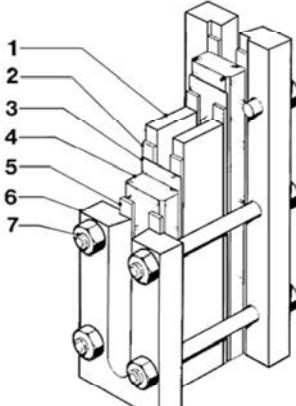
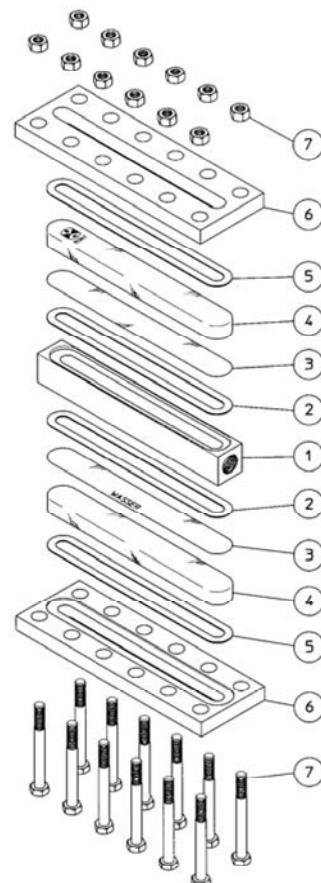
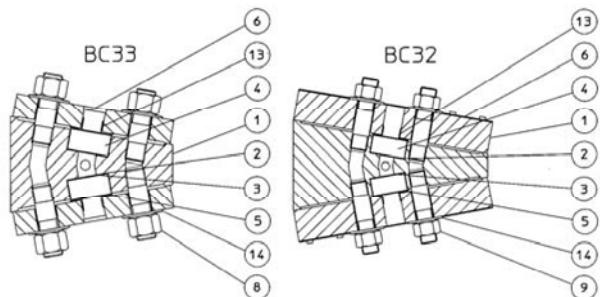

Fig. 764 - BT23
Fig. 6 - Transparent level gauge typical assembly dwg
Fig. 7 - BC33 e BC32 typical assembl Dwg.
1. Refer to proper level gauge type to identify items (Table 3 and typical assembly Dwg Fig. 6 and Fig. 764, 765, 766, 767, 814.1, 815.1, 824-BC23/BC24/BC28).
3. Depending on gauge type, fit cover plate (6) with bolts (7), stud bolts (8) or studs (9) for Type BC level gauges.
4. Only for BT 32/33 fit angular pieces (13). Place cushion joint (5).
5. Place transparent glass (4) into its housing on cover plate so that glass side with the BONT® trade mark must be faced to the cushion joint. Be careful to avoid damages to glass (as scrapes) made by metal items. Insert mica shield (or Kel-F shield), if any (3). Mica shield has a side with printed the word "WASSER". Such side must be placed faced to the observer (internal side of level gauge).
6. Place sealing joint (2).
7. Place centre piece (1) so that it is correctly matching over sealing joint and glass. Be careful to avoid damages to glass or to sealing joint or to mica shield.
8. Place sealing joint (2) matching it on the centre body housing. Insert . Insert mica shield (or Kel-F shield), if any (3). Mica shield has a side with printed the word "WASSER". Such side must be placed faced to the centre piece (internal side of level gauge).
9. Place transparent glass (4) on its housing . Place transparent glass (4) into its housing on centre piece so that glass side with the BONT® trade mark must be faced to the observer (outside of the level gauge). Be careful to avoid damages to glass (as scrapes) made by metal items.
10. Place cushion joint (5). Only for BT32 / BT33 insert angular pieces ("L" bars) (13).
11. Fit the cover plate (6); be very careful to avoid scrapes or dam-
- Refer to proper level gauge type to identify items (Table 3 and typical assembly Dwg. Fig. 6 e Fig. 7).
- Screw studs (9) in the centre piece (1).
- Place sealing joint (2) centering it in its centre piece housing. Insert mica shield (3) if any. Mica shield has a side with printed the word "WASSER". Such side must be placed faced to the sealing joint (internal side of level gauge) .
- Place transparent glass (4) into its housing on centre piece so that glass side with the BONT® trade mark must be faced to the cushion joint. Be careful to avoid damages to glass (as scrapes) or to mica shield made by metal items.
- Place cushion joint (5) and insert angular pieces ("L" bars).
- Place cover plate (6) so that it is correctly matching over cushion joint and glass. Be careful to avoid damages to glass or to joints or to mica shield.